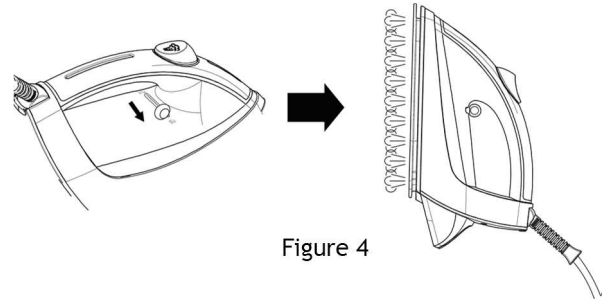

Figure 4
1. Regular steam setting: distribute the steam from the entire soleplate to evenly iron the fabric (Figure 4).